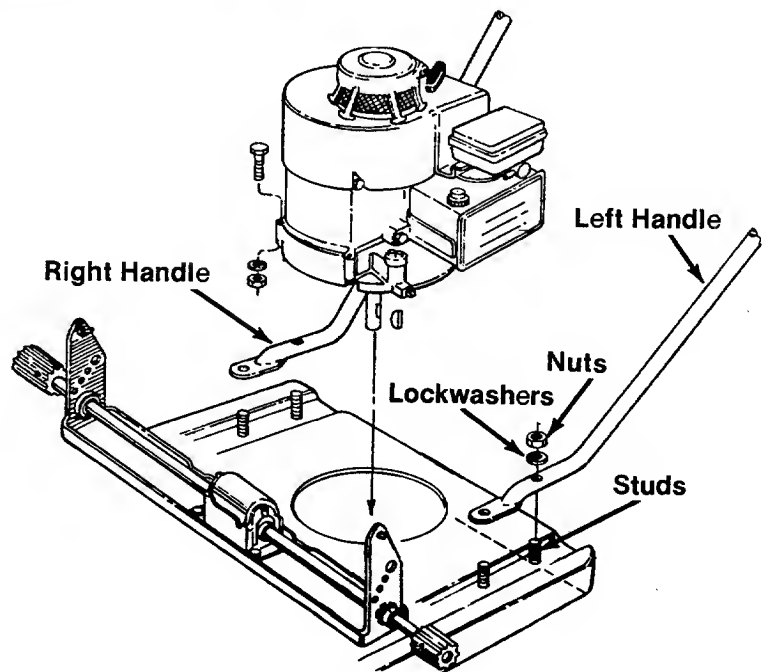

FIGURE 2
1. Remove the nuts, lockwashers and spacers on the four studs on the rear frame of the mower. See figure 2.
7. Tighten the four nuts holding the left and right handle to the frame. See figure 2.